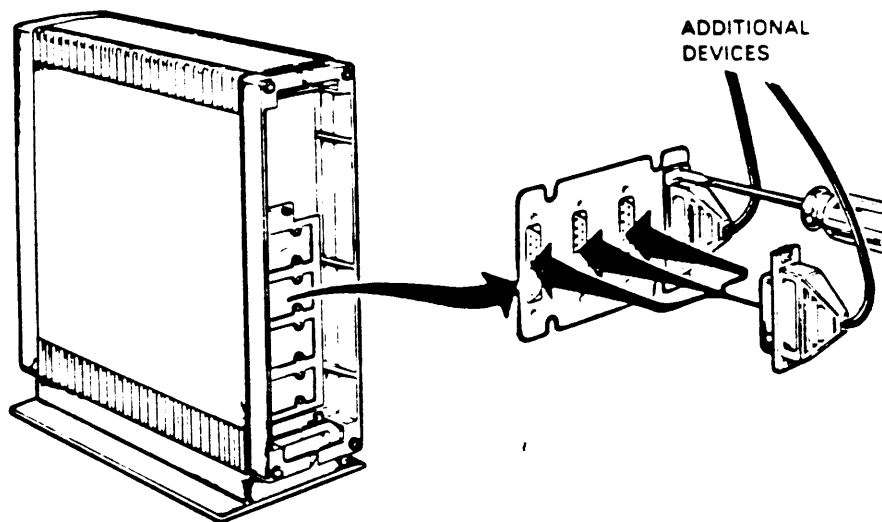

FIGURE 2-5. Connecting Additional devices to the BA23 enclosure.
Step 9: Install and connect any additional devices through the appropriate I/O panel connectors as shown in Figure 2-5.